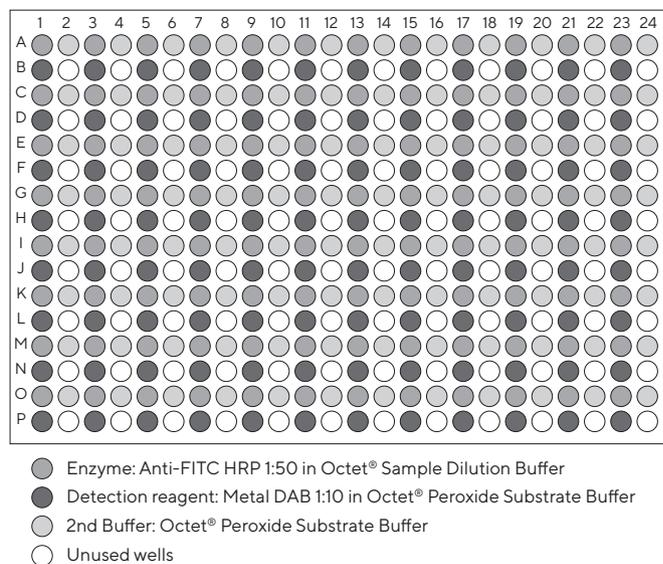

Figure 3: Detection Plate layout for 96 biosensor mode for Octet® RH96 system.
4. Prepare the Detection Plate (example plate layout shown in Figure 3):
5. Define the Detection Plate layout to correspond to the layout in Figure 3.